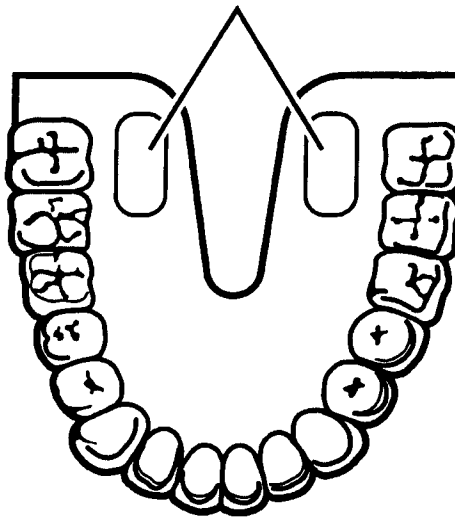

Figure 9: Location of Sublingual Pockets
- 4) When a double dash “--” appears in the TEMP display window, the temperature sensor is ready to take a measurement. To take a normal predictive temperature, simply insert the probe tip gently into the patient’s slightly opened mouth. Carefully slide the probe under the tongue on either side of the mouth to reach the sublingual pocket. Refer to Figure 9.